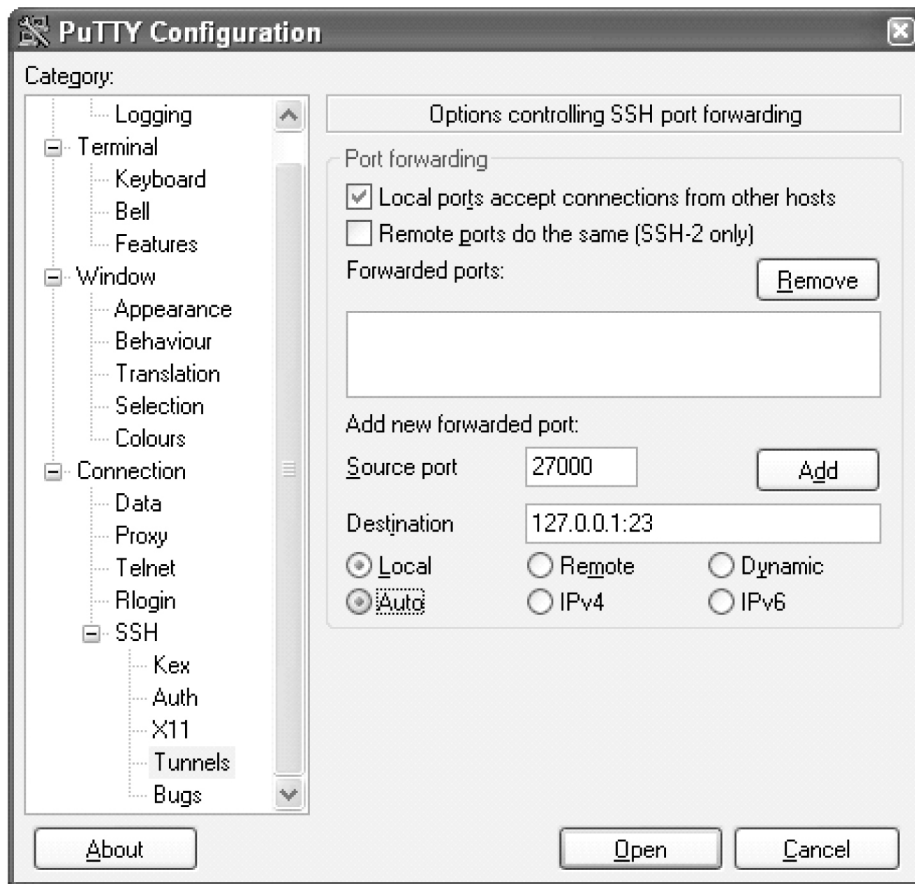

Figure 18: PuTTY Configuration Window - SSH Tunnel/Port Forwarding Setup
Click the **Local ports accept connections from other hosts** check box in the **Port Forwarding** section of the **PuTTY Configuration** window (Figure 18: PuTTY Configuration Window - SSH Tunnel/Port Forwarding Setup), to accept connections from other hosts.
12. In the **Add new forwarded port** section of the **PuTTY Configuration** window (Figure 18: PuTTY Configuration Window - SSH Tunnel/Port Forwarding Setup), click the **Local** radio button.
13. The **Destination** box in the **Add new forwarded port** section of the **PuTTY Configuration** window (Figure 18: PuTTY Configuration Window - SSH Tunnel/Port Forwarding Setup) contains the IP address and port of the remote machine.